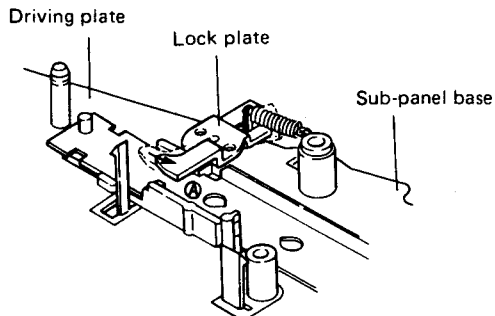

Fig. 13-5 Cam assembly attachment
The cam assembly is attached by letting the lock plate go in the direction ④ as shown in Fig. 13-5.